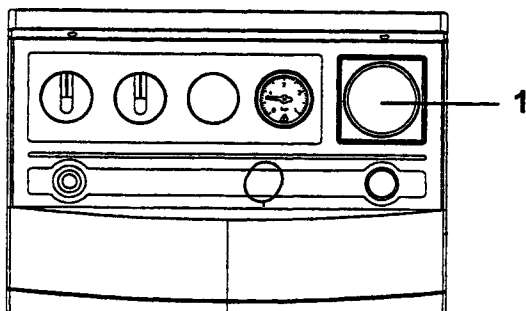

Fig. 1
- (C) Wiring to external time switches, room thermostats and frost thermostats.
- (D) Wiring to 'Y' plan or 'S' plan installations.
Remove the clock aperture blanking plate (1) (fig. 1) by squeezing the four lugs on the rear of the plate together and push the plate out.
Remove the clock aperture blanking plate (1) Fig. 1. by squeezing the four lugs on the rear of the plate together and push the plate out.